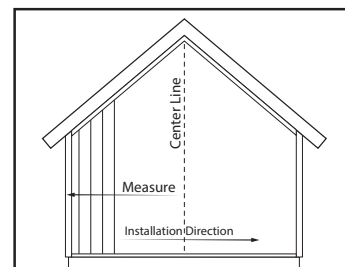

Figure 5.1.2
- Using Z-Flashing as the lower guide and J-Channel as the upper guide, determine where to start your siding based on the width of the wall. (Figure 5.1.2)